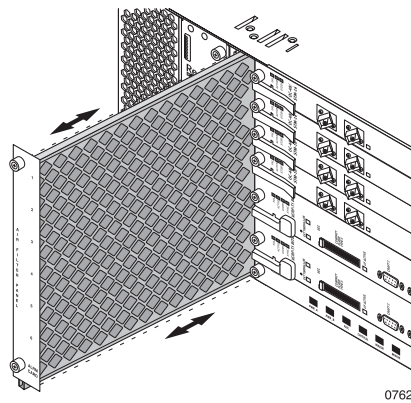

Figure 34 Replacing the Air Filter with Attached Panel
- a If the filter is attached to the panel, this step also inserts the panel into the opening; see Figure 34.